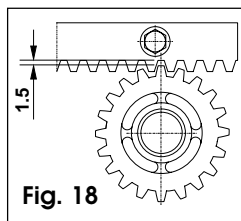

Fig. 18
- After installing the rack, to ensure correct meshing with the pinion gear, we advise you to lower the position of the gearmotor by approximately 1.5 mm (Fig.18).